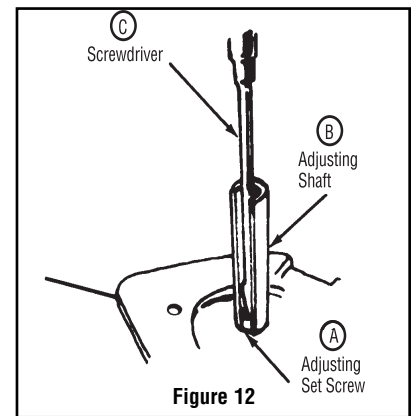

Figure 12
- B. While holding the adjusting shaft (B) tightly, turn small center adjusting screw (A) with small screwdriver (C) until thermostat "clicks" (see Figure 12).